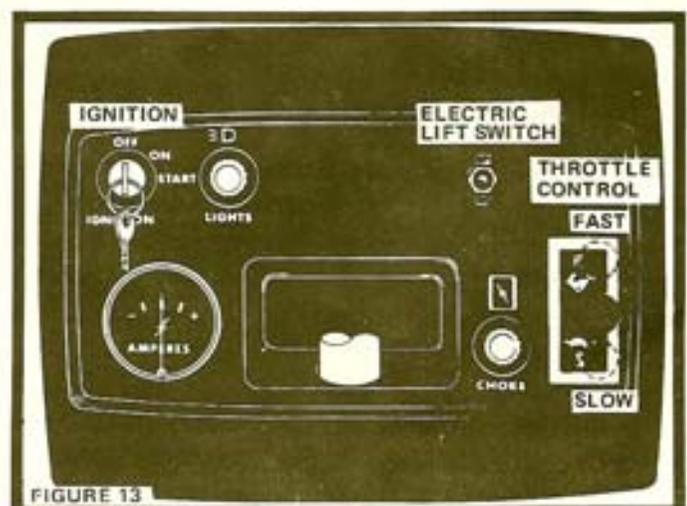

FIGURE 13
6. Move Throttle Control Lever to middle position (Fig. 13).
7. Pull Choke out (Fig. 13).
8. Turn Ignition Key to "START" position until Engine starts (Fig. 13). Release key into "ON" position.
**NOTE:** The Electric Lift Switch (Fig. 13) raises or lowers an attachment when used with a Three Point Hitch (optional equipment).